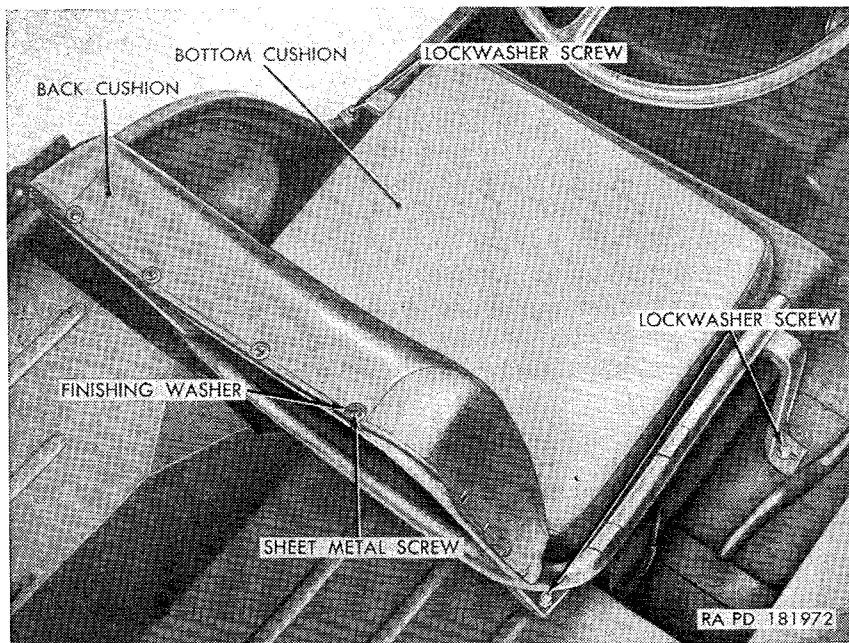

Figure 191. Driver's seat assembly (M38A1)—installed.
*a. Driver's Seat Assembly* (fig. 191).
- (1) *Removal.* Remove the four lockwasher screws and flat washers securing the driver's seat frame to the front and rear floor pans, left side body panel, and left rear wheel well panel.
d. Driver's and Passenger Seat Cushion Assemblies (figs. 191 and 192).
- (1) *Removal.* Remove driver's seat assembly (a(1) above). Remove passenger seat assembly (b(1) above).